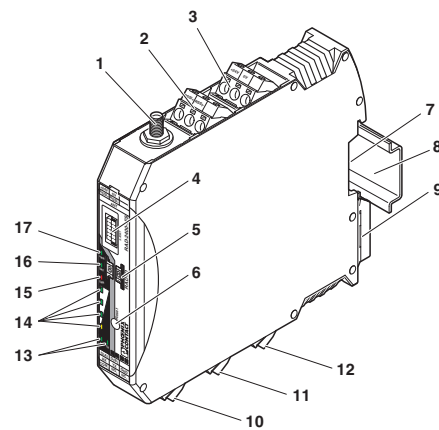

Figure 4-1 RAD-2400-IFS structure
- Connect the single wires of the data cable to the COMBICON plug-in screw terminal block (Figure 4-1, item 10).